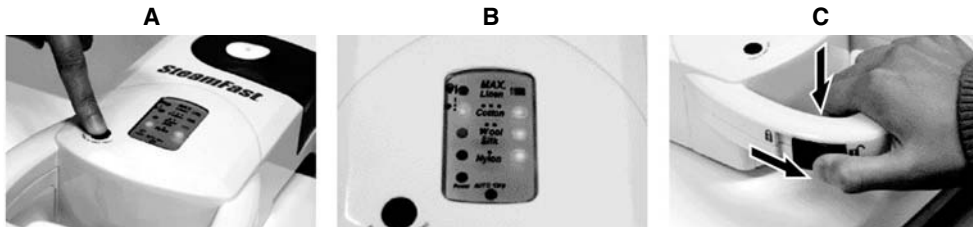

FIGURE 2
- For first-time use, remove protective plastic cover that is shipped on electrical plug. Plug power cord into electrical outlet and set On/Off Switch to "On" (I) position. Power Indicator Light will illuminate.
- Identify type of fabric you are going to press, and use Fabric Select Button to choose a corresponding temperature setting (FIGURE 2-A). As Fabric Select Button is pressed, the illuminated Indicator Light will cycle through four available temperature settings (NYLON, WOOL/SILK, COTTON, MAX/LINEN), as well as default power mode.
- When one of the four temperature settings (NYLON, WOOL/SILK, COTTON, MAX/LINEN) is selected, Heating Indicator Lights will illuminate and begin blinking. Heating Indicator Lights will illuminate in sequence, beginning at the lowest indicator (green) and working up to higher indicators (yellow, orange, red) as the unit heats (FIGURE 2-B). Approximate heating times for each setting are as follows:
- While pushing down on Pressing Plate, slide Lock to "Unlock" position to release Pressing Plate (FIGURE 2-C). Pressing Plate will spring into raised position and remain there automatically.